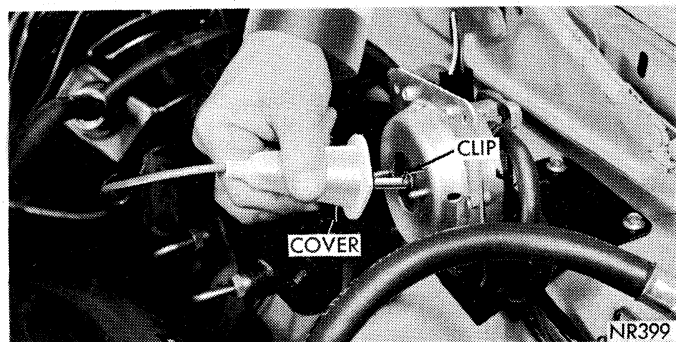
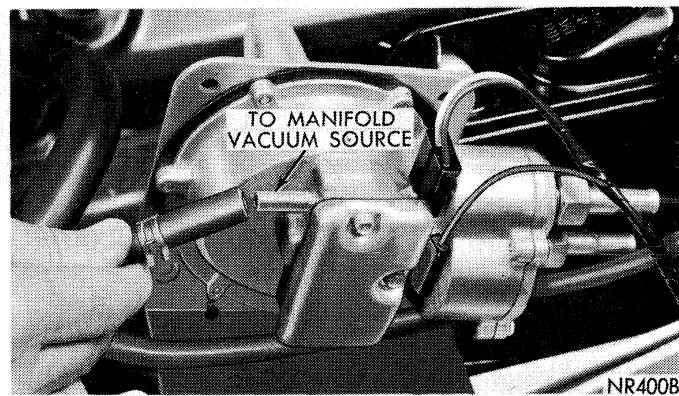

Fig. 7—Removing or Installing Throttle Cable Cover
Fig. 8—Removing or Installing Servo Hose
(1) Remove two nut and washer assemblies attaching the servo cable cover to servo housing. Pull cover away from servo to expose cable retaining clip (Fig. 7) and remove clip attaching cable to servo diaphragm pin.
(2) Disconnect speedometer cables at the servo housing.
(3) Disconnect the vacuum hose at servo housing (Fig. 8) and electrical connectors.
(4) Remove servo from mounting bracket (two nut and washer assemblies).
(1) Remove air cleaner.
(2) Disconnect cable at retaining clamp, and at carburetor lost motion link by removing spring clip.
(3) Disconnect cable at servo (Fig. 7) and remove cable assembly.
(3) Install wire harness terminals in proper cavity of insulator. Refer to Fig. 7 for proper location. Connect wiring harness connector.
(4) Position speed control switch (turn signal lever) into place in column, install attaching screw and tighten securely.
(5) The following steps apply only to those models which are equipped with Tilt and Telescopic steering column and H-N-F-G models with Tilt steering column. All others proceed to Step 6.